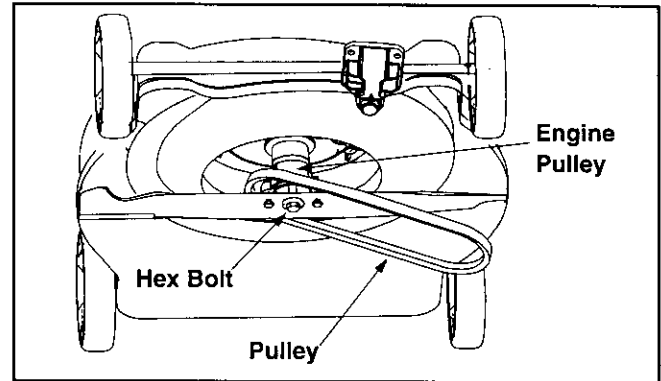

Figure 15
- Loosen the center hex bolt and lower the blade and engine pulley until there is adequate clearance to move the belt past the belt keeper. See Figure 15.